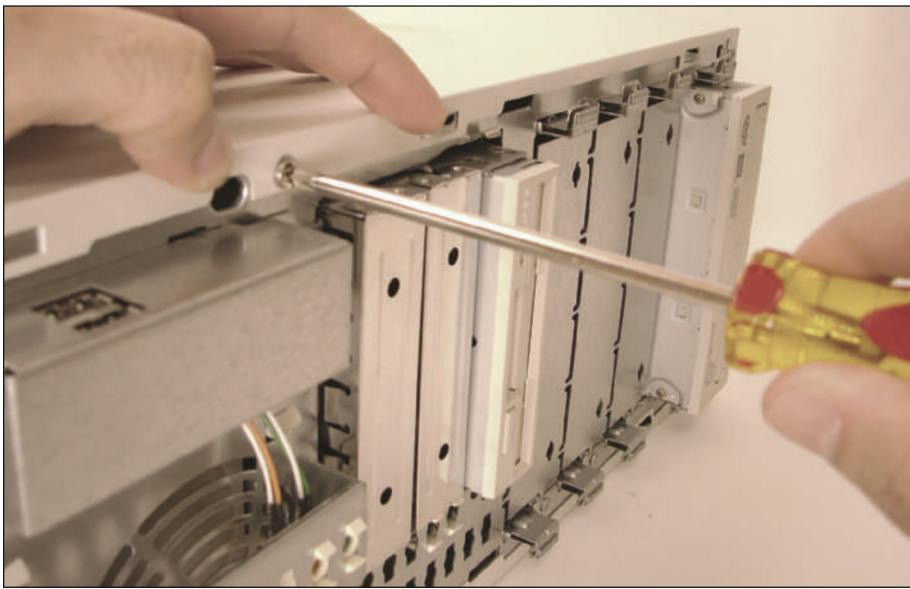

Figure 2-7 One screw holds the side panel in place
- ▲ Then remove a single screw (see Figure 2-7) and slide the side panel to the front and then off the case.